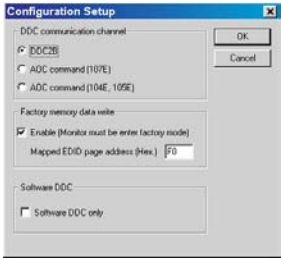

Fig. 27
1. Configuration should be as Fig. 27.